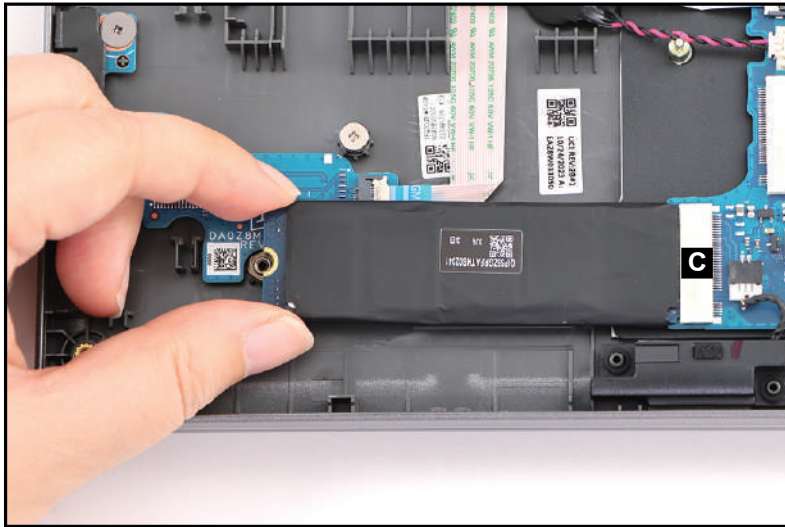

Figure 3-155. Replacing the SSD Module
5. Connect the SSD module to the mainboard connector (C) (Figure 3-155).